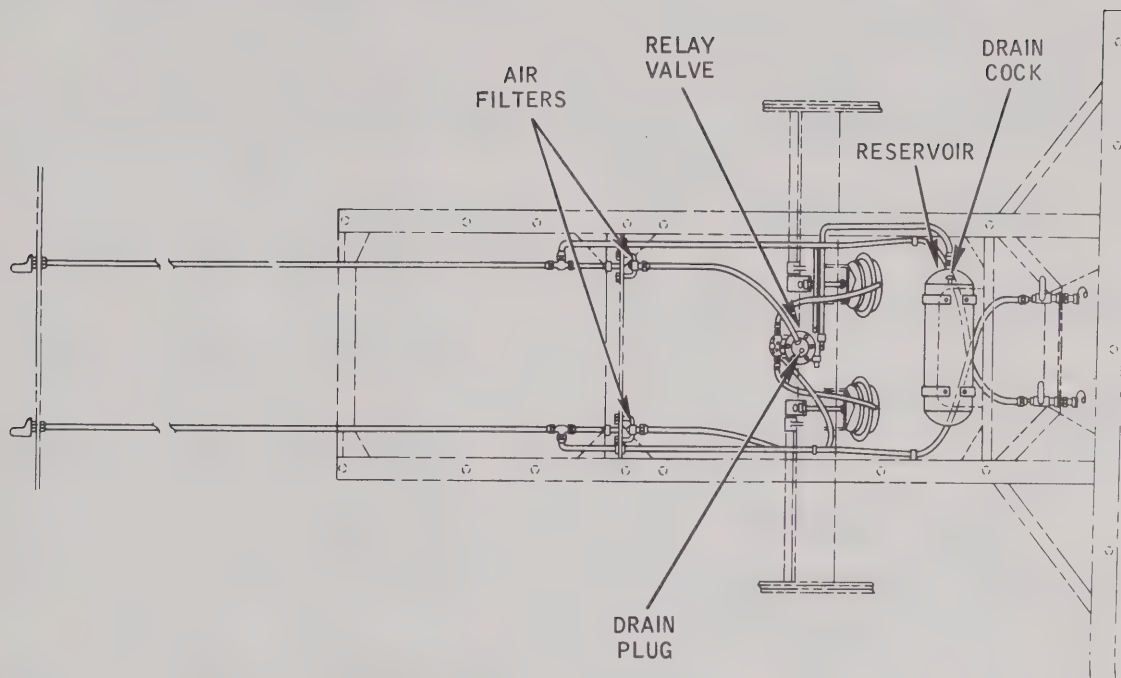

Figure 5-3. Airbrake system moisture drainage.
a. Remove the drain plug from the bottom of the relay valve, using the adjustable wrench (figure 5-3).